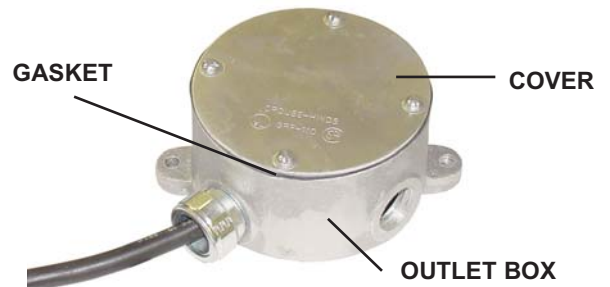

Figure 4
2. To make the required wiring transition to portable cord, use any UL listed outlet box and cover suitable for wet locations. See Figure 4. Wall mount the outlet box adjacent to the floodlight yoke or SWB6 wall mount bracket if used.